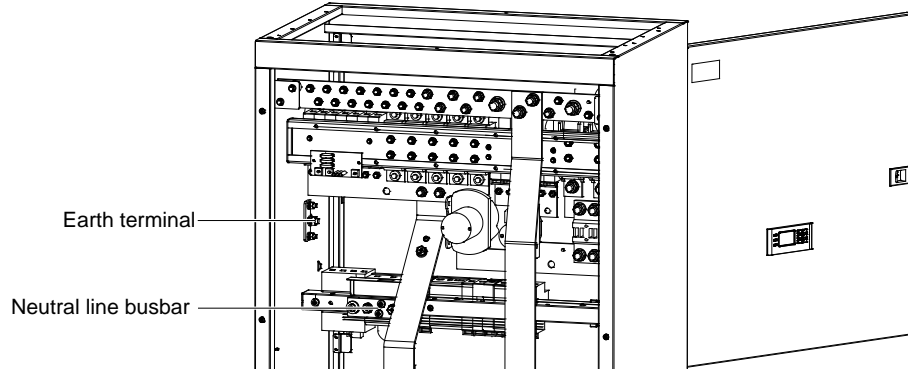
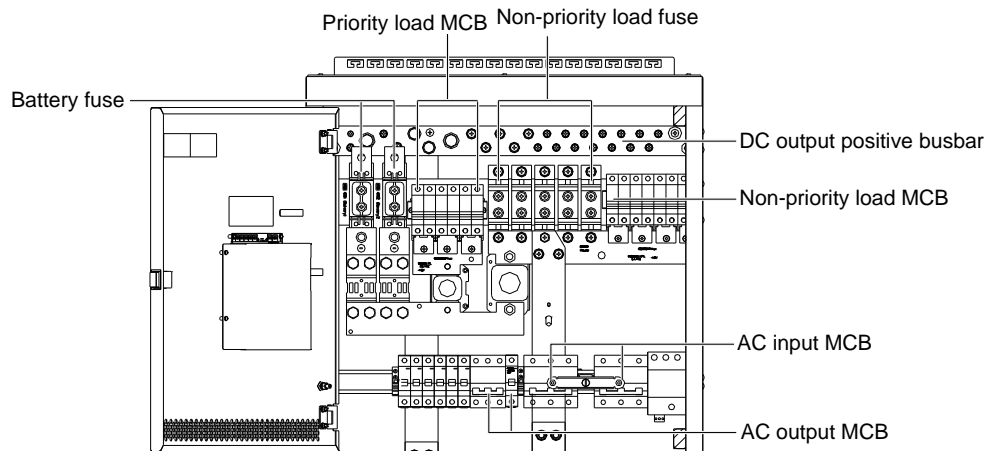
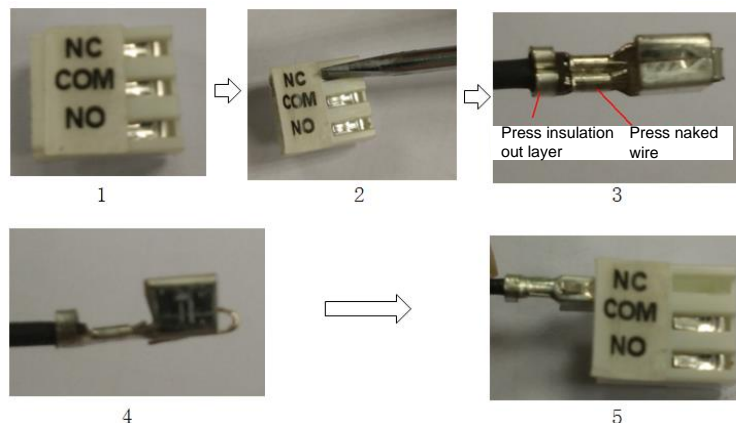

Figure 2-4 Connection terminals (rear view, rear plate removed)
Figure 2-5 Connection terminals (front view)
Figure 2-8 Connecting J1-J5 signal terminal
Connect one end of the grounding cable to the user earth bar of the equipment room, and the other end to the grounding terminal of the power system. Put the cable through the fixing holes at the top of the cabinet. Use the cable ties to fix the modem on the top of the cabinet, as shown in Figure 2-8. Taking NetSure 731 CC2-X3/X4 and NetSure 731 C62-X1 power system as an example, the grounding terminal is shown in Figure 2-4. The grounding terminal and neutral busbar of the NetSure 731 CC2-X1、X2 power system are located under the rectifier subrack. The grounding terminal position of NetSure 731 C62-X2 and NetSure 731 C62-X1/X3 is same as that of the neutral line busbar.
1. Connect the AC input phase cables to the AC input MCBs, as shown in Figure 2-5.
The figure shows the two routes of mains input MCB configuration. NetSure 731 CC2-X3, X4 and NetSure 731 C62-X1, X2, X3 power system only configure one route of mains input MCB, the AC input MCB is shown in Figure 2-5. The AC input MCB, AC output MCB and rectifier MCB of the NetSure 731 CC2-X1, X2 power system are located in the distribution room below the rectifier subrack.
2. If the power system is configured with AC output MCB, connect the AC out cables to the AC output MCB, and connect the AC out neutral line to the neutral busbar, as shown in Figure 2-4 and Figure 2-5.
Connect the negative load cable to the upper terminal of the load MCB or load fuse. Connect the positive load cable to the DC positive busbar, as shown in Figure 2-5. The specifications of the positive busbar connection screw are \varnothing 8mm and \varnothing 6mm. Please connect the load cable according to the priority load and non-priority load labels.
1. Connect one end of the negative battery cable to the upper terminal of the battery fuse. Connect one end of the positive battery cable to the DC positive busbar. The positions of the connection terminals are shown in Figure 2-5. The specifications of the positive busbar connection screw is $\varnothing 10\text{mm}$.
Step3: Peel off the insulation outer layer (about 3mm), as shown in Figure 2-8. Then press the naked wire and insulation out layer.
Step 4: The well-compacted terminal is shown in Figure 2-8.
Step 5: Plug the terminal into the terminal shell, as shown in Figure 2-8.